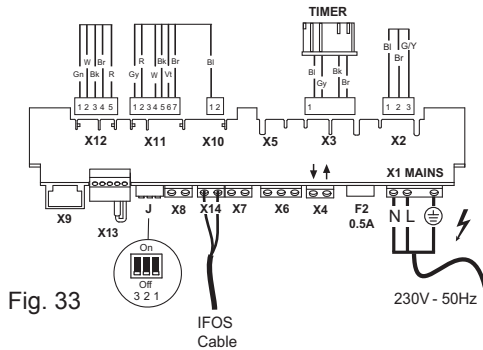

Fig. 33
3. Connect the IFOS cable to the grey T-OUT connector (X14 Fig. 33). There is no polarity. Refit and secure the cover.